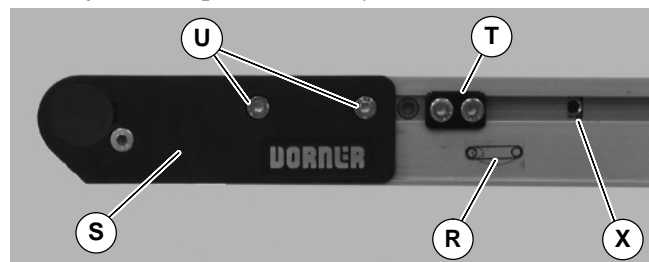

Figure 37
1. On tension end of the conveyor, identified with a  label (R of Figure 37), adjust head plate assembly (S): On both sides of conveyor, loosen fastening screws (U) and rotate pinion gear (X) to adjust head plate assembly.
2. Adjust head plate assembly so end of conveyor frame aligns with first tensioning mark (BR of Figure 38). Tighten fastening screws (U of Figure 37) on both sides of conveyor to 60 in-lb (7 Nm).
3. If equipped with cam tracking assemblies (T of Figure 37), reposition against head plates and adjust belt tracking. Refer to “Conveyor Belt Tracking”, page 16.